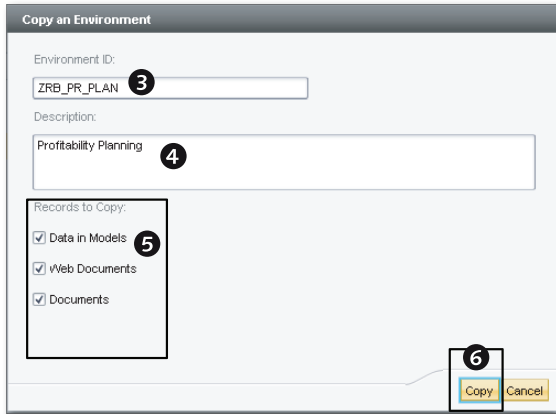

Figure 3.24 Creating an Environment—Part B
2. In the **COPY AN ENVIRONMENT** dialog box, enter the technical name ("ZRB_PR_PLAN") and description ("Profitability Planning") for the new environment (Figure 3.24, 3 and 4). Select the options you want to use for copying data from the source environment (Figure 3.24, 5). When **DATA IN MODELS** is selected, the model data is also copied to the new environment. For our case study, we'll select this option. Then click on **COPY** (Figure 3.24, 6).